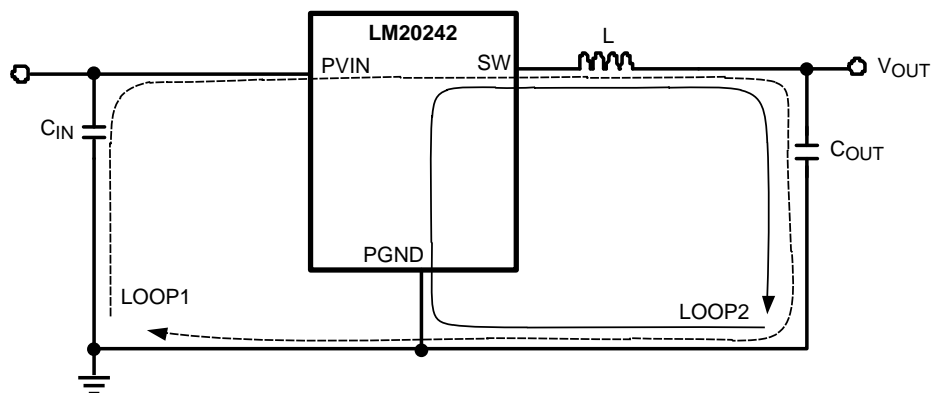

Figure 16. Schematic of LM20242 Highlighting Layout Sensitive Nodes
1. Minimize area of switched current loops. In a buck regulator there are two loops where currents are switched very fast. The first loop starts from the input capacitor, to the regulator VIN pin, to the regulator SW pin, to the inductor then out to the output capacitor and load. The second loop starts from the output capacitor ground, to the regulator GND pins, to the inductor and then out to the load (see Figure 16). To minimize both loop areas the input capacitor should be placed as close as possible to the VIN pin. Grounding for both the input and output capacitor should consist of a small localized top side plane that connects to GND and the exposed pad (EP). The inductor should be placed as close as possible to the SW pin and output capacitor.